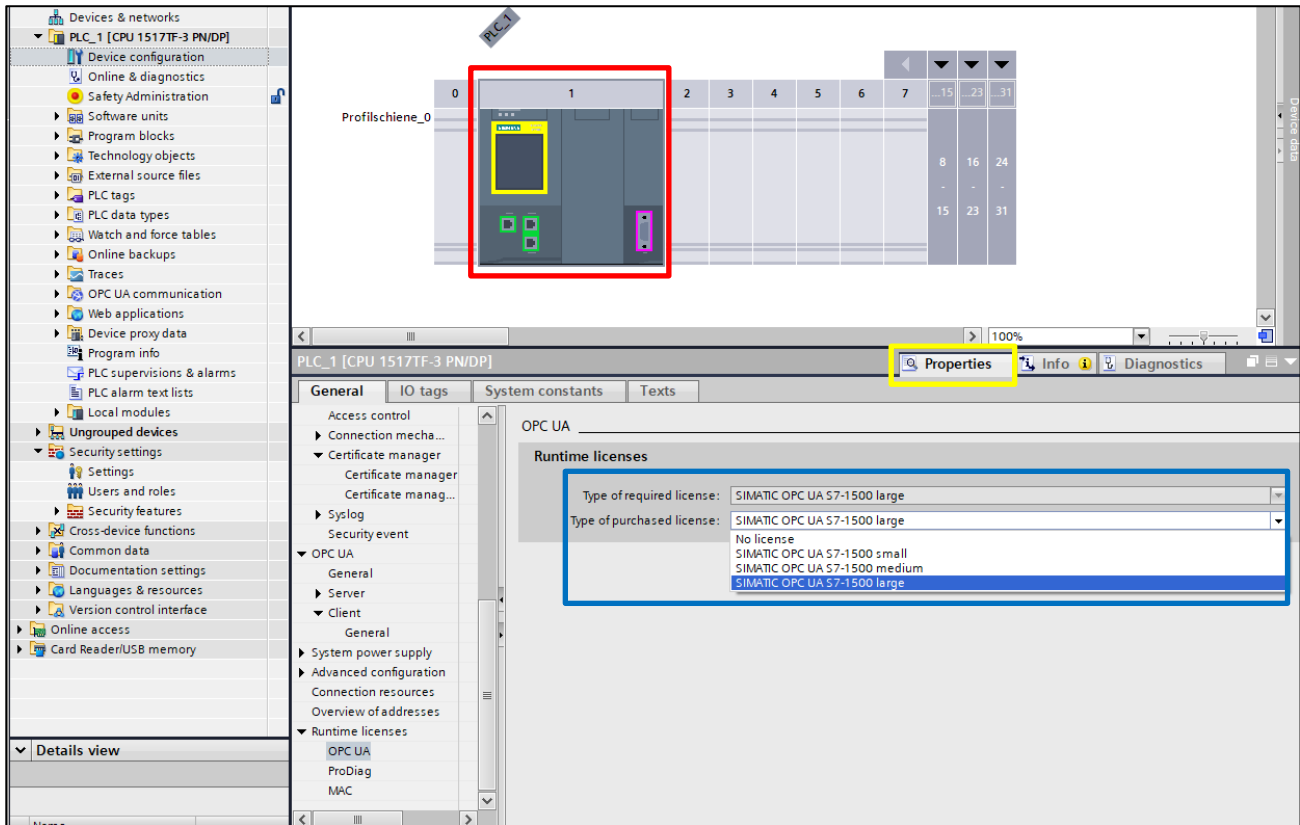

Figure 7: Activating licences in the TIA Portal
1. In the device configuration, click on your configured controller (Figure 7 red square).
2. Then click on the "Properties" tab (Figure 7 yellow square).
4. Activate the required licence by selecting the licence displayed under "Type of licence required" in the "Type of licence purchased" drop-down list (Figure 7 blue square).